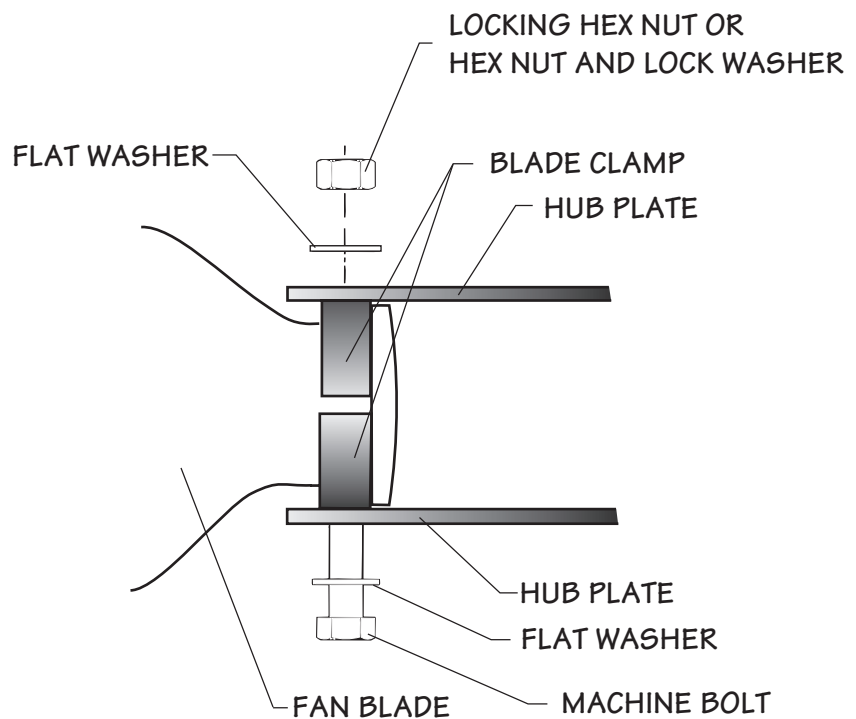

Figure 5
2 Remove one set of blade clamps from the hub assembly. Blade clamps are installed on the hub assembly at the factory with spacers for shipping purposes. Remove and discard the spacers. Position the blade clamps around the shank of a blade with the machined-face end of the blade clamp against the blade safety shoulder. See **Figure 5**. Large nylon cable ties can be used to hold blade clamps on the blade during installation providing easier assembly.
- 3 Insert the blade with blade clamps around the shank and with the concave blade side (TOP) on the discharge side between the hub assembly plates as shown in **Figure 4**. Vertically align the two bolt holes in the clamps and plates. Install two lubricated $\frac{3}{4}$ " bolts, four $\frac{3}{4}$ " flat washers, (two $\frac{3}{4}$ " lock washers if hardware material is monel), and two $\frac{3}{4}$ " hex nuts, engaging the nuts only three to four threads as shown in Figure 5. Do not tighten the hardware until all the blades have been installed. The blade must be free to rotate in the clamp for pitch adjustment.
- 2 Pull the blade outward so the safety shoulder is in contact with the blade clamp, then set the pitch. See **Figure 5**. Blades should be within $\pm 1/4^\circ$ of the desired pitch angle. After the desired setting is obtained, progressively tighten the $3/4"$ hex nuts to 120 ft·lbf (163 N·m) torque. Recheck the pitch angle. If required, loosen the hex nuts and reset the pitch as necessary until the proper pitch angle is obtained with the $3/4"$ hex nuts at 120 ft·lbf (163 N·m) torque.